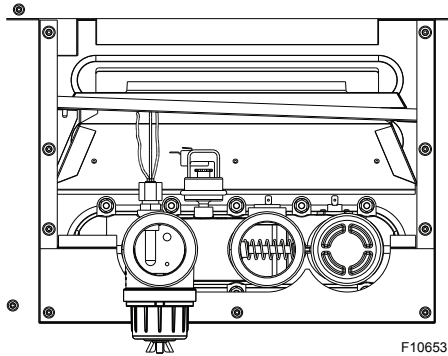

Figure 33. Component Wiring Locations - In/out Header
- Disconnect wires at high limit, AGS (automatic gas shut-off), water pressure switch on the in/out header and ProTek Shield bonding wire. See **Figure 33**.